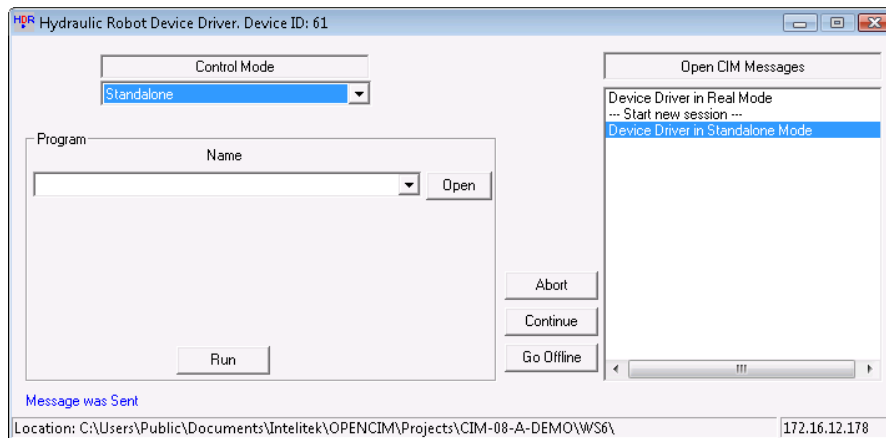

Figure 158: Hydraulic Robot Device Driver (Standalone)
4. From the Control Mode drop down list, select **Standalone**. The window is expanded as shown in Figure 158: Hydraulic Robot Device Driver (Standalone).